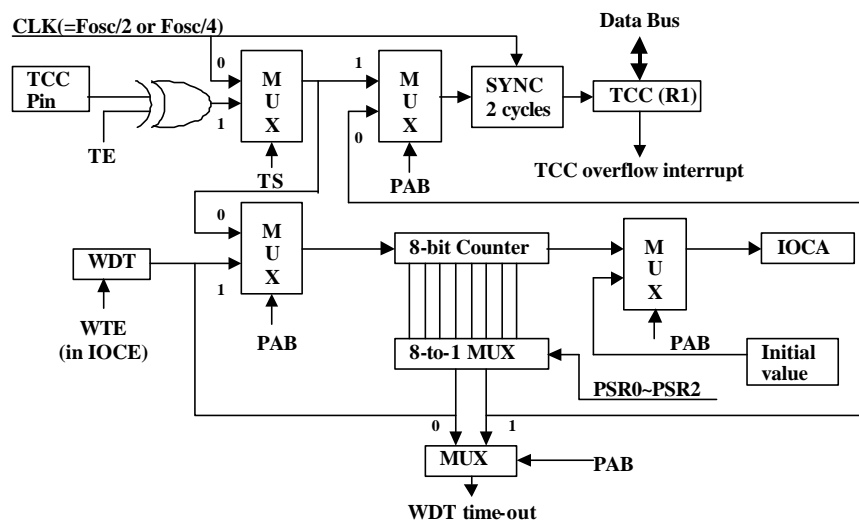

Fig. 5 Block Diagram of TCC and WDT
An 8-bit counter available as prescaler for the TCC or WDT. The prescaler is available for either the TCC or WDT only at any given time, and the PAB bit of the CONT register is used to determine the prescaler assignment. The PSR0~PSR2 bits determine the ratio. The prescaler is cleared each time the instruction is written to TCC under TCC mode. The WDT and prescaler, when assigned to WDT mode, are cleared by the "WDTC" or "SLEP" instructions. Fig. 5 depicts the circuit diagram of TCC/WDT.
- R1 (TCC) is an 8-bit timer/counter. The clock source of TCC can be internal or external clock input (edge selectable from TCC pin). If TCC signal source is from internal clock, TCC will increase by 1 at every instruction cycle (without prescaler). Referring to Fig. 5, $CLK = F_{osc}/2$ or $CLK = F_{osc}/4$ application is determined by the CODE Option bit CLK status. $CLK = F_{osc}/2$ is used if CLK bit is "0", and $CLK = F_{osc}/4$ is used if CLK bit is "1". If TCC signal source comes from external clock input, TCC is increased by 1 at every falling edge or rising edge of TCC pin.